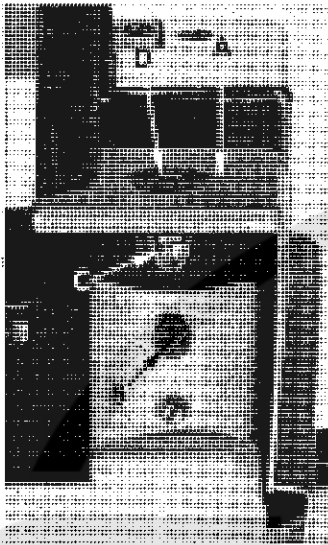

Fig. 3
**CAUTION:** When removing the cloth plate (A, Fig. 3) loosen the cloth plate stud locking screw (B) and lift up cloth plate with the cloth plate stud (C) and cloth plate screw (D), assembled.